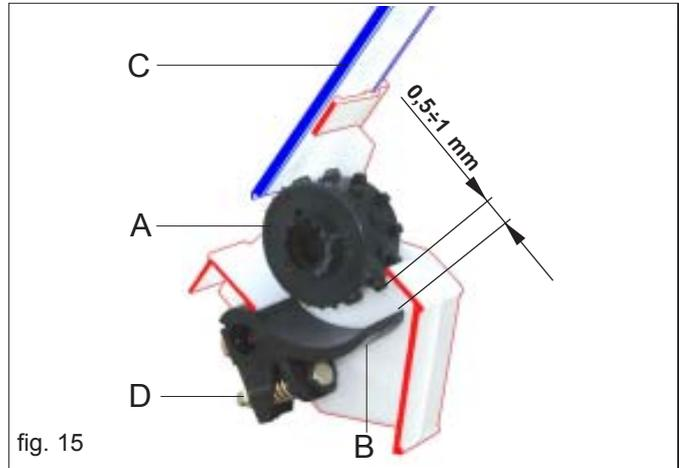
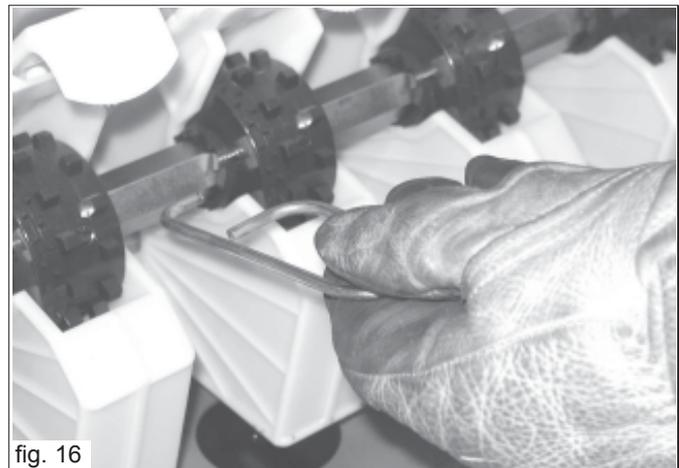
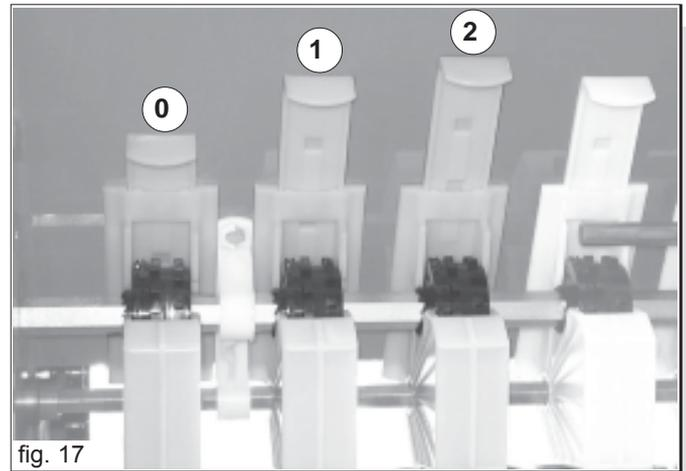

fig. 15
fig. 16
fig. 17
If the feelers (B Fig. 15) are correctly positioned, they assure a fluid and constant distribution of the seeds.
For best seeding results, periodically check the position of the feeler pins (B): adjust the distance between the feeler and the distributor veller (A) by means of the nut (D) to 0,5 ÷ 1 mm (Fig. 15).
The most appropriate type of seed distributor roller must be selected prior to sowing on the basis of the type of seed being planted (A Fig. 15). The machine is fitted with rollers for small, medium and large seeds. Select the type of distributing roller according to the information given in Table 4 (page 40). Which is selected by inserting the key supplied (Fig. 16) into the slot on the left side of the roller and push the drag retainer all the way out. Pefferom the a.m. operation in inverse order to return the roller to its initial position.
The discharge mouth closing blades (C Fig. 15) for the discharging of the seeds from the hopper, have **three adjustment positions** (Fig. 17):
The seeding depth is adjusted simultaneously for all planting devices through a crank (Fig. 17). By rotating it counterclockwise, a stronger pressure can be exerted on the planting devices to the ground by means of the extension springs, thus allowing deeper seeding.